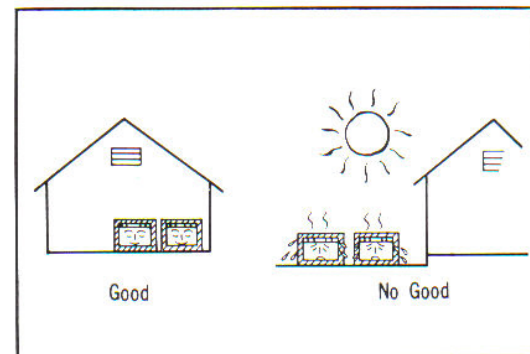

Fig. 5.42
b. The batteries should be stored without unpacking carton in a dark, dry, cool place where the temperature is constant and does not exceed 120°F (49°C). (Fig. 5.42)